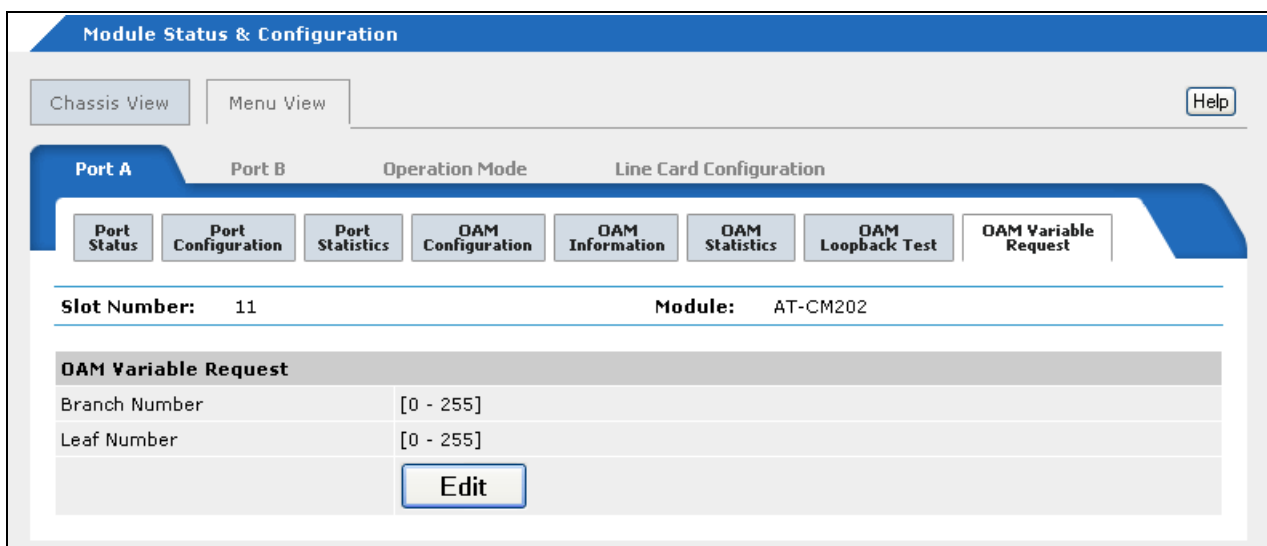

Figure 104. OAM Variable Request Tab
4. Click the **OAM Variable Request** tab to display the window in Figure 104.